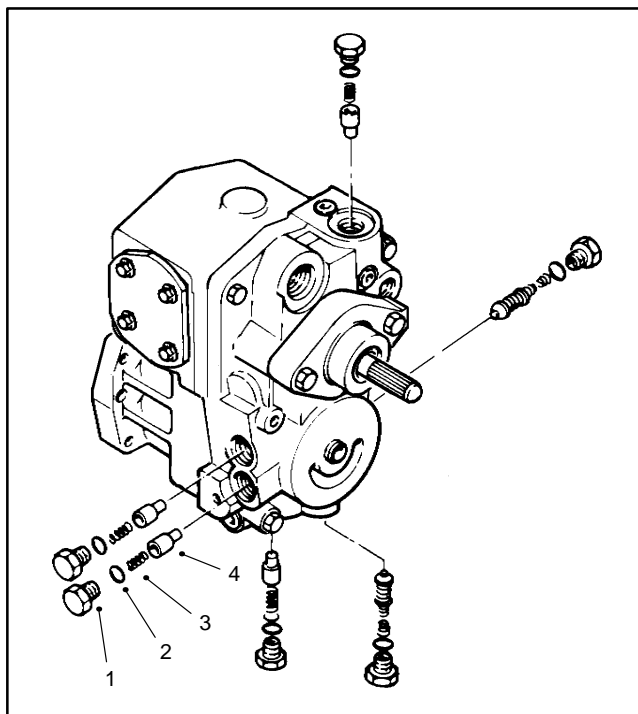

Figure 81
2. Remove the filter reverse flow check valve hex plug (Fig. 81).